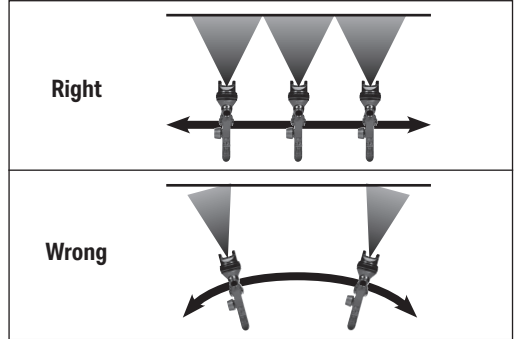

Fig. 14
- Move the spray gun with a smooth motion, keeping it perpendicular to and at a constant distance from the surface at all times (Fig. 14).